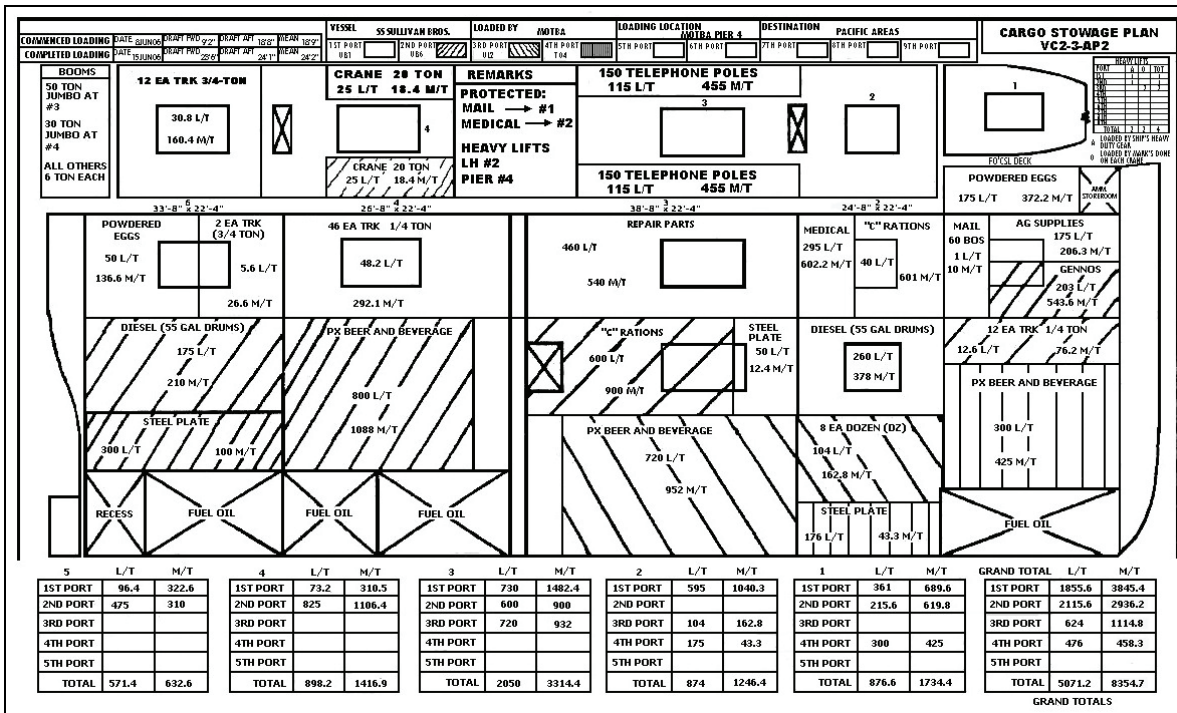

Figure 3-120. Stowage Plan
- b. Find the diagram on the stowage plan (see Figure 3-120) for the hatch to which assigned.